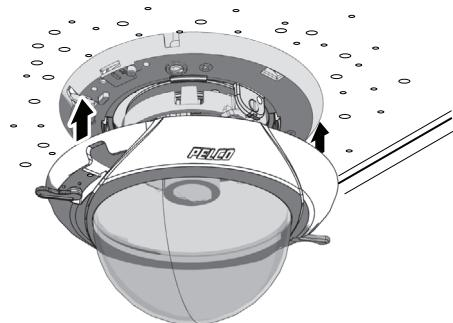

Figure 11. Aligning the Lower Dome with the Back Box
3. Move the lower dome latches away from the bubble until you hear a click. Align the lower dome latches with the slots located on the back box (refer to Figure 11).